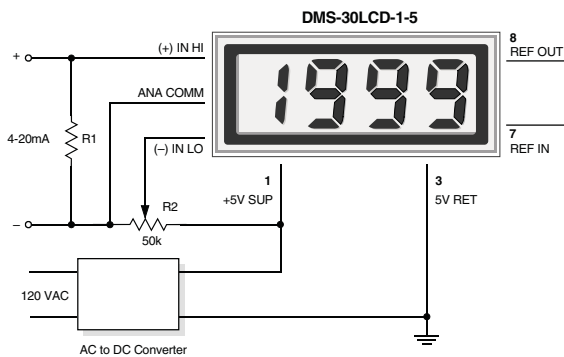

Figure 7. 4-to-20mA Current Loop Operation (5V-Powered Models)
5. Process Control (4-to-20mA) Measurements: In many common process-control applications, a 4-to-20mA current loop is used to transmit information. Because DMS-30LCD meters have such high input impedance, a simple shunt resistor across the meter's input can be used to convert the loop current to a voltage. See Figure 7. The value of the shunt resistor is a function of the scaling requirements of the particular application and can be calculated using the following equation:
To calibrate the circuit of Figure 7, perform the following: